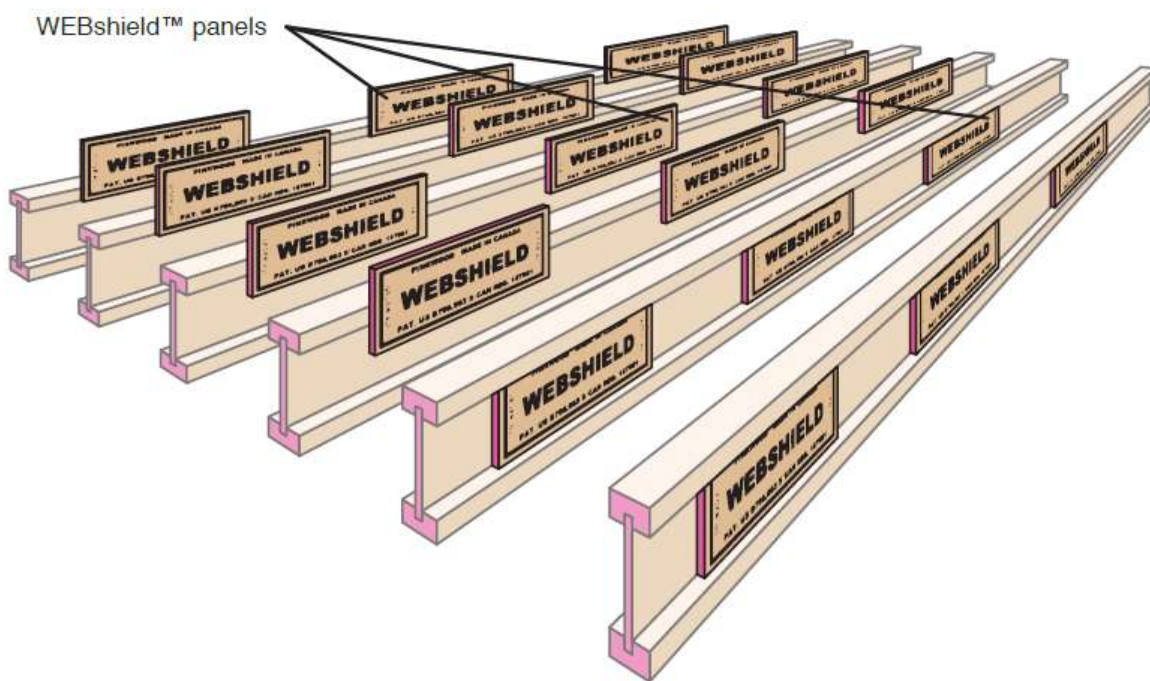

FIGURE 1 – WEBSHIELD panel frequency
Yes and No. When WEBSHIELD protected I-joists are required, the allowable hole size and location must conform to Pinkwood's published hole chart or Pinkwood's software calculations with the added condition that one (1) single maximum 6-inch-diameter hole may be cut into each WEBSHIELD panel if the panel position as described in Figure 1 is not avoidable. This single 6" hole is allowed without the need for engineering analysis and is included in UES-ER0431. Under this condition, when a 6" maximum hole is cut in a WEBSHIELD panel, an additional 6" wide WEBSHIELD panel section must be fastened on each side of I-joist web as described in Figures 1 and 2, using one staple top and bottom in accordance with Pinkwood's installation instructions. The additional WEBSHIELD panel shall be installed beside the penetrated WEBSHIELD panel adjacent to the hole. The holes shall meet the spacing rules and other requirements contained in the Pinkwood I-joist installation details. Holes larger than 6" are allowed to penetrate through a WEBSHIELD panel but must be reviewed by a licensed design professional. Additional WEBSHIELD protection is required as stated earlier but must be sized to correspond with the penetration size.
However, the WEBSHIELD panel frequency of 48" o.c. maximum spacing is a requirement. (see Figure 1) A maximum 24" unprotected gap is allowed from the end of the joist per AC-14 testing. Such testing confirms the capacity of the WEBSHIELD protected joist ensuring the I-joist can be cut and consumed as any standard I-joist.